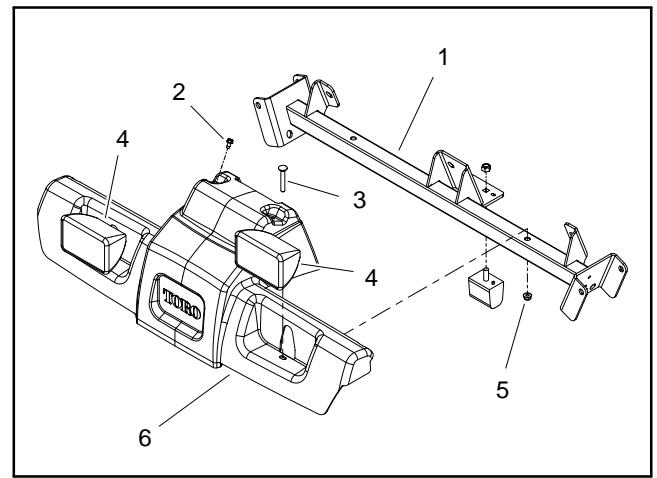
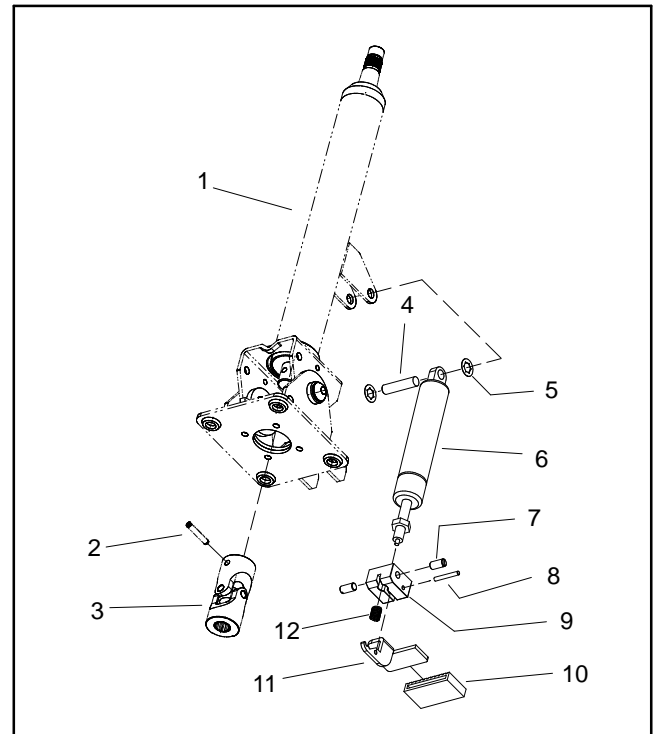

Figure 3
Figure 4
2. Remove platform shroud from machine to allow access to steering column fasteners (Fig. 3).
6. Remove four (4) flange head screws that secure column brace (item 12) to frame platform. Remove brace from machine to allow access to steering column fasteners.
9. Loosen and remove four (4) socket head screws (item 5) that secure steering control valve to steering column.
10. Loosen and remove four (4) socket head screws (item 9) and flange nuts (item 10) that secure steering column to machine.
12. Disassemble steering column assembly as needed using Figure 4 as a guide.
1. Assemble steering column using Figure 4 as a guide.
3. Slide steering column onto steering control valve. Secure steering column in place with four (4) socket head screws (item 9) and flange nuts (item 10).
4. Secure steering control valve to steering column with four (4) socket head screws (item 5). Torque screws from **7 to 10 ft-lb (10 to 13 N-m)**.
6. Position column brace (item 12) in place and secure with four (4) flange head screws.
11. Install and secure platform shroud to machine (Fig. 3).